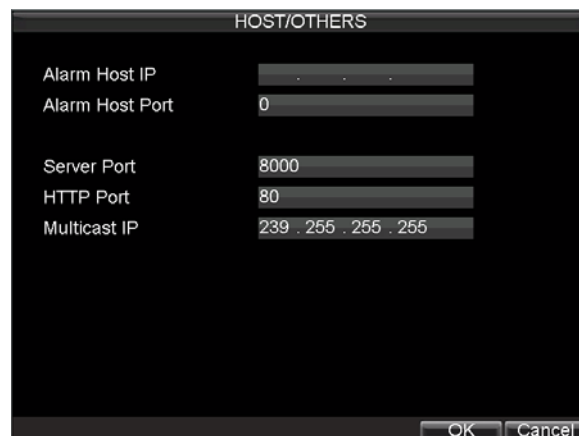

Figure 11. Host/Others Menu
4. Enter new **Server Port** and **HTTP Port**, as shown in Figure 11.